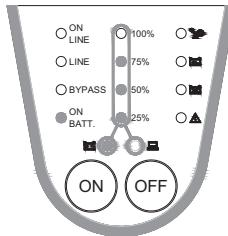

Fig. 4-4 On-Battery Mode
- ✓ ON-BATTERY Mode: When the UPS is in "ON-BATTERY Mode", the on-battery LED will light on and the buzzer will beep for half seconds every 2 seconds. Then, the UPS will start supplying power to the load through batteries. See Fig. 4-4.